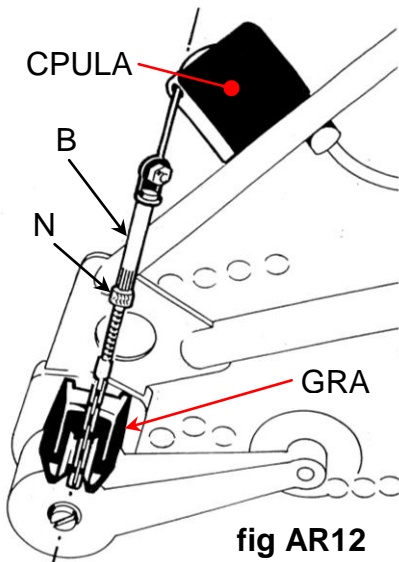

fig AR12
**5-speed**, fig AR15 (Note: the GRA must be aligned with the cable/indicator-chain, fig AR12). Engage top gear, then move the control trigger to position 2 (2nd bottom gear): the annular groove, SR, coloured red or blue, towards the end of the indicator rod, should lie level with the end of the axle. Next change down and then up through all the gears, and check that all gears engage cleanly, fine tuning the setting if needed. In practice, you may find that, with the gears functioning correctly, the groove SR lies (when in 2nd gear) somewhere between the end of the axle and 1.5mm out from the end of the axle (i.e. a slightly tighter setting): but bear in mind that, when in top, the indicator chain, GICH, should be just slack. Next, test the gear selection under load by riding the bike, again changing down and up through all the gears.